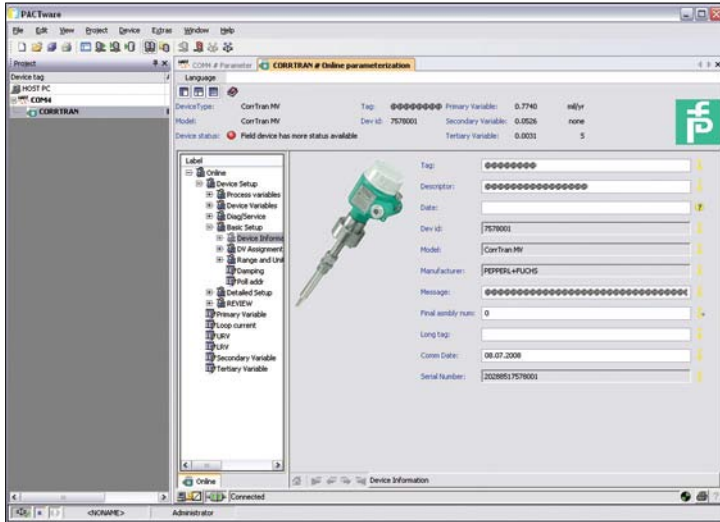

Figure 38. Basic Setup – Device Information
- 'DV Assignment': allows you to configure the Primary (PV) and Secondary (SV) Variables as either general or localized corrosion, respectively. Remember, the Tertiary Variable (TV) is always conductance and cannot be changed. Figure 38 shows the 'DV Assignment' screen in the 'Basic Setup' menu.